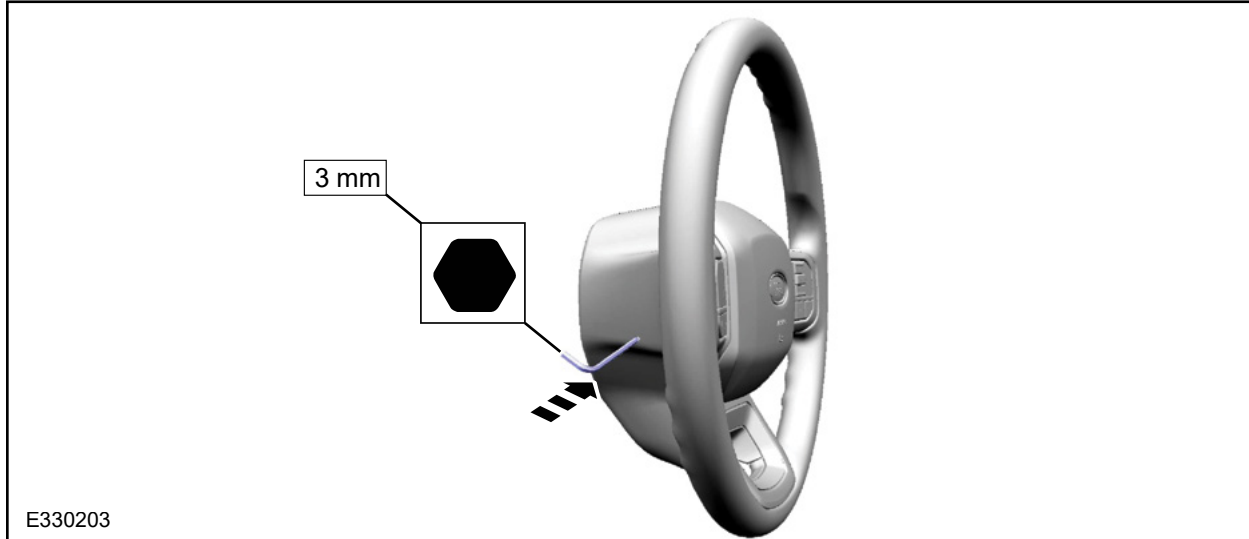

FIGURE 1
2. At the side of the steering wheel, locate the hole and insert a 3 mm (0.125 inch) Allen key. See Figure 1.